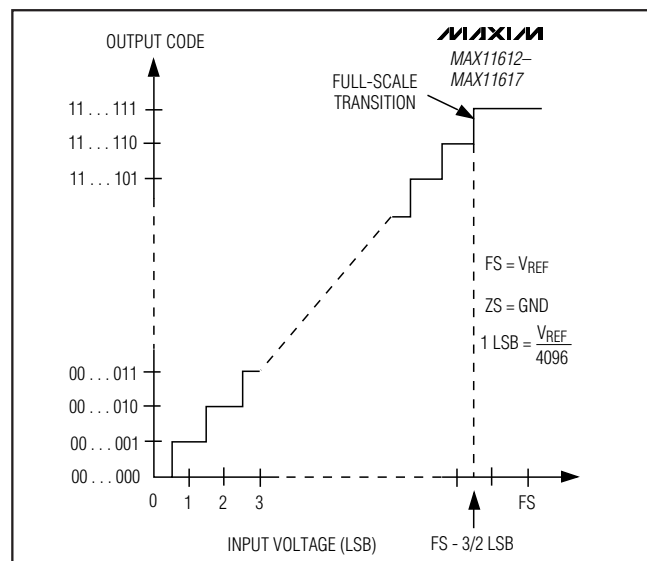

Figure 12. Unipolar Transfer Function
Output data coding for the MAX11612–MAX11617 is binary in unipolar mode and two’s complement in bipolar mode with $1 \text{ LSB} = (V_{\text{REF}}/2N)$ where N is the number of bits (12). Code transitions occur halfway between successive-integer LSB values. Figures 12 and 13 show the input/output (I/O) transfer functions for unipolar and bipolar operations, respectively.